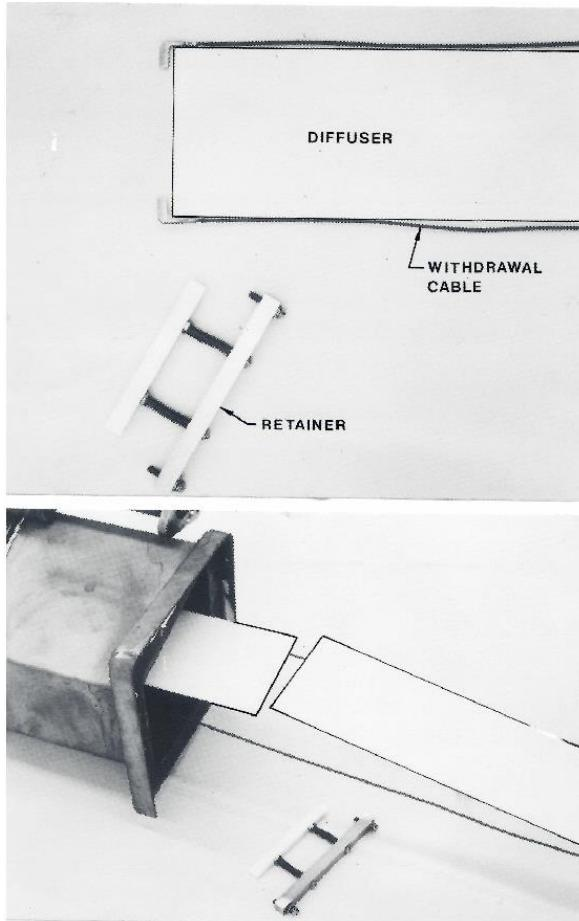

Figure 8.11 Diffuser Replacement
- 3) Slide the first diffuser section into the grooves in the track, then push it into the backlight housing until its trailing edge is several inches past the beginning of the track (Figure 8.11). Handle the diffuser by its edges. As it slides along the track, the removal cable will be pulled along. Ensure that the cable feeds evenly down the excess space in the grooves beside the diffuser.